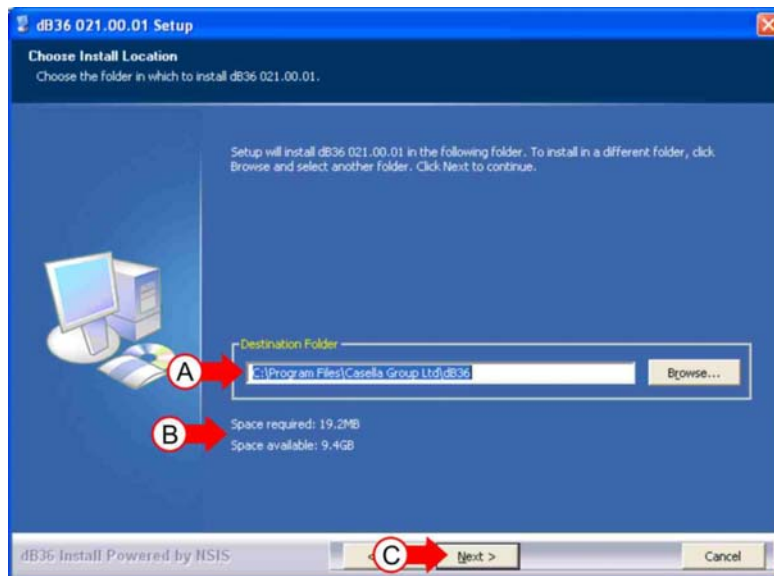

Figure 3 Program Destination Screen
- The program destination folder will be displayed. The dB36 Installer will offer a location on the PC Hard Disc Drive (A) and display the space required (B). If the program destination is not satisfactory, click the **Browse** button to select a different location. When the program destination has been selected, press **Next** (C). (Refer to Figure 3)